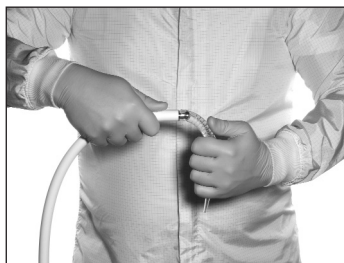
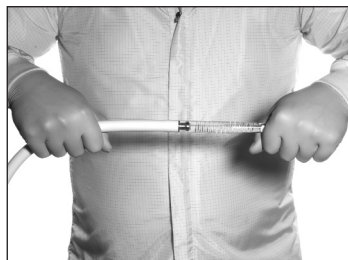

FIGURE 4. REMOVE THE DETACHABLE TIP WITH A PEELING MOTION
FIGURE 5. INCORRECT REMOVAL OF DETACHABLE TIP
7. To remove the Detachable Tip, grasp the tip near the proximal end of the Fiber Optic Cable. With hands close together, rotate the hand holding the tip in a peeling motion (see Figure 4). Do not pull the tip horizontally as damage to the connector on the cable and damage to the fiber optics will occur (see Figure 5). The Detachable Tip is discarded and the Fiber Optic Cable is cleaned and sterilized for future use.